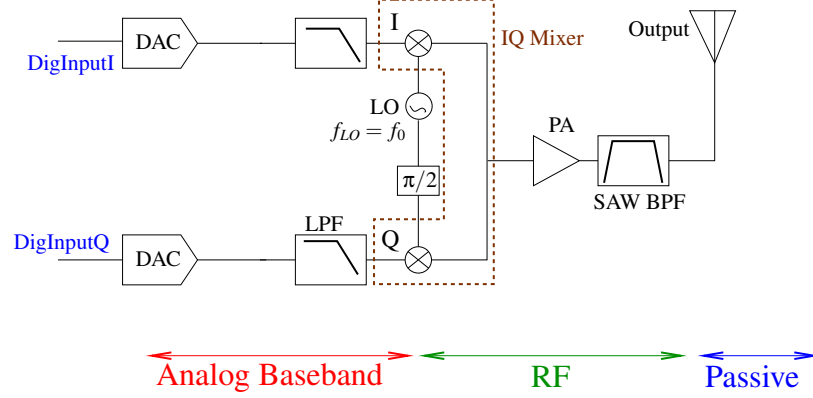

FIGURE 2 – TX block diagram
The block diagram of the TX system is shown in Fig. 2. It is an Inphase/Quadrature (IQ) Homodyne architecture. The I-path and Q-path are both composed of a Digital to Analogue Converter (DAC) followed by a low pass filter. The I-path and the Q-path will